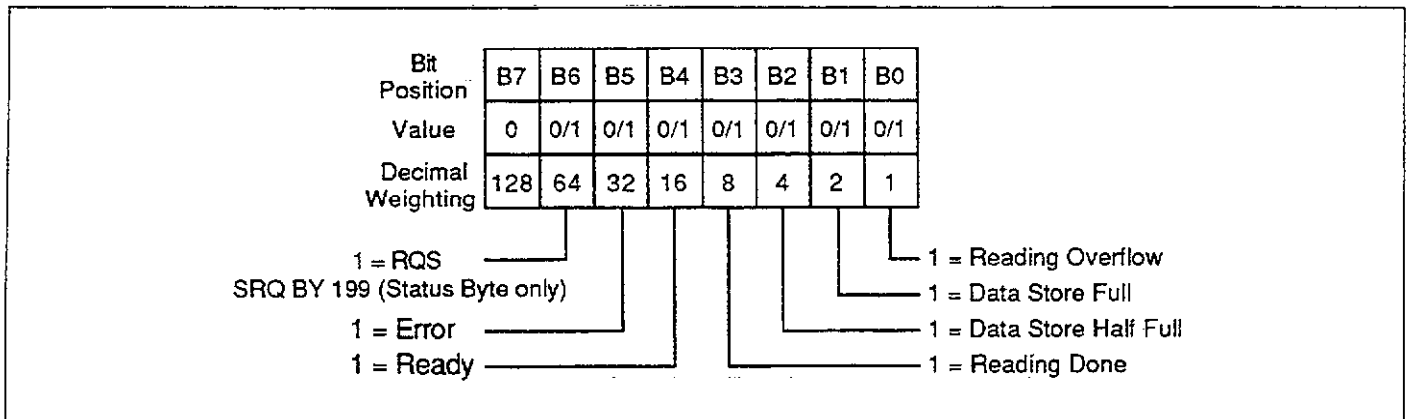

Figure 3-7. SRQ Mask and Serial Poll Byte Format
**SRQ Mask**—The Model 199 uses an internal mask to determine which conditions will cause an SRQ to be generated. Figure 3-7 shows the general format of this mask.
**Serial Poll Byte Format**—The serial poll byte contains information relating to data and error conditions within the instrument. The general format of the serial poll byte (which is obtained by using the serial polling sequence, as described in paragraph 3.8.8) is shown in Figure 3-7.